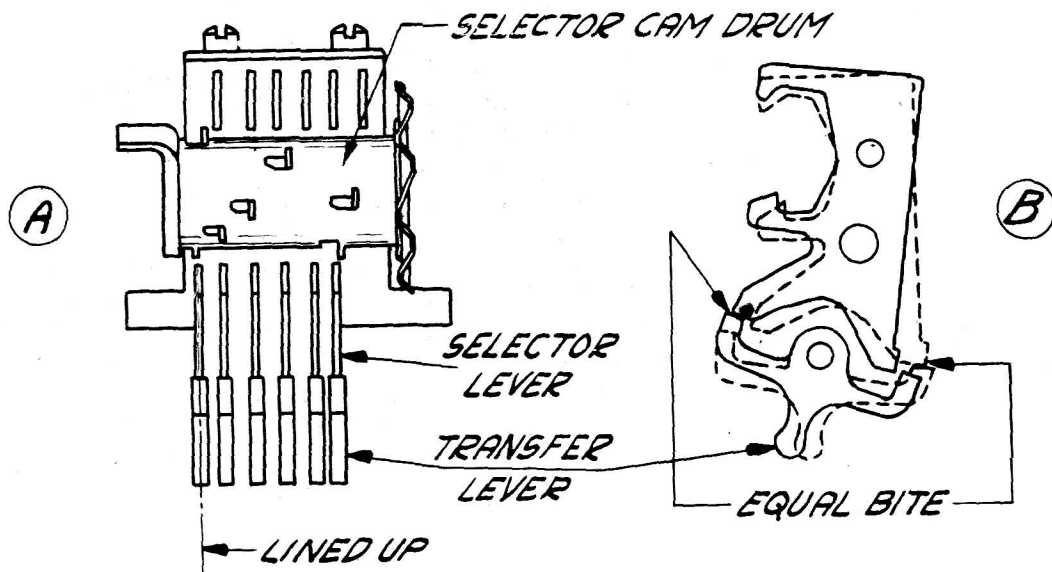

FIGURE 15.
Transfer Lever Bearing-Bracket Position, Fig. 15
- A. With the transfer bail held in the "upward" position, set the transfer bracket so that both arms of the transfer levers line up with the selector levers (Fig. 15-A).
- B. With the selector armature on the marking side and the flutter lever against the end of the selector armature, rotate the main shaft until the selector cam stop arm is resting against the stop lug. Place all selector levers in the marking position (down). Raise the transfer bracket and check the bite that the transfer levers have on the selector levers. Then set the selector levers in the spacing position (up). Raise the transfer bracket and check the bite on the spacing side. Now shift the bracket forward or backward so that the bite on the spacing side is equal to the bite on the marking side (Fig. 15-B). Tighten bracket clamping screws. Recheck adjustment "A".